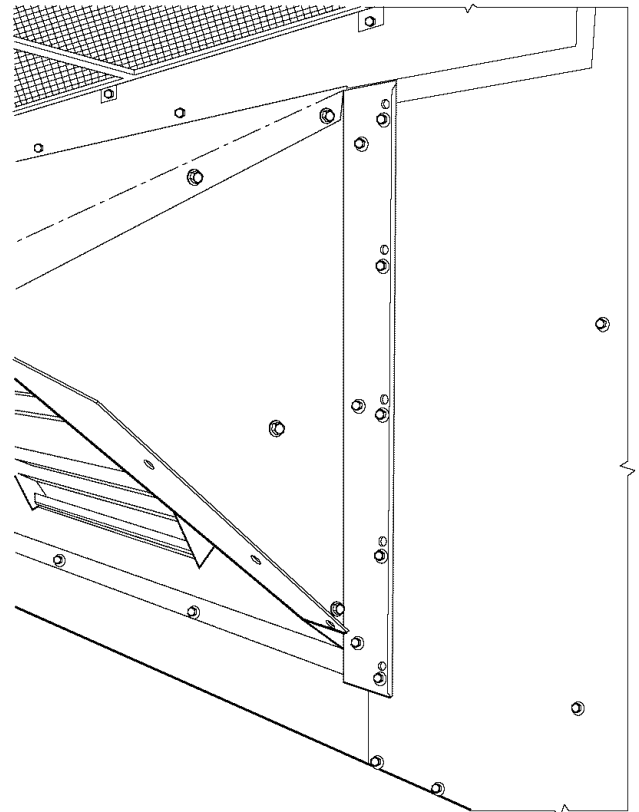

Fig. 19 — Bracket and Hood Positioning
4. With screws saved from Step 1, install brackets on each side of damper assembly. See Fig. 19.